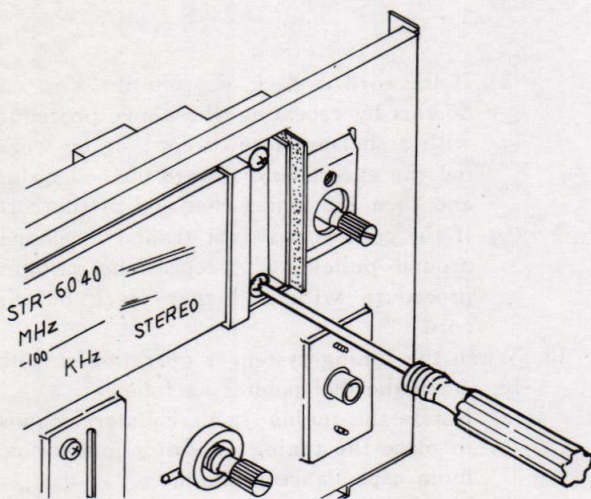

Fig. 2-6 Dial glass replacement
2. Loosen the two self-tapping screws (+RF 3×6), securing the left- and right-side dial-glass holders to the chassis. Figure 2-6 shows the right-side dial-glass holder.